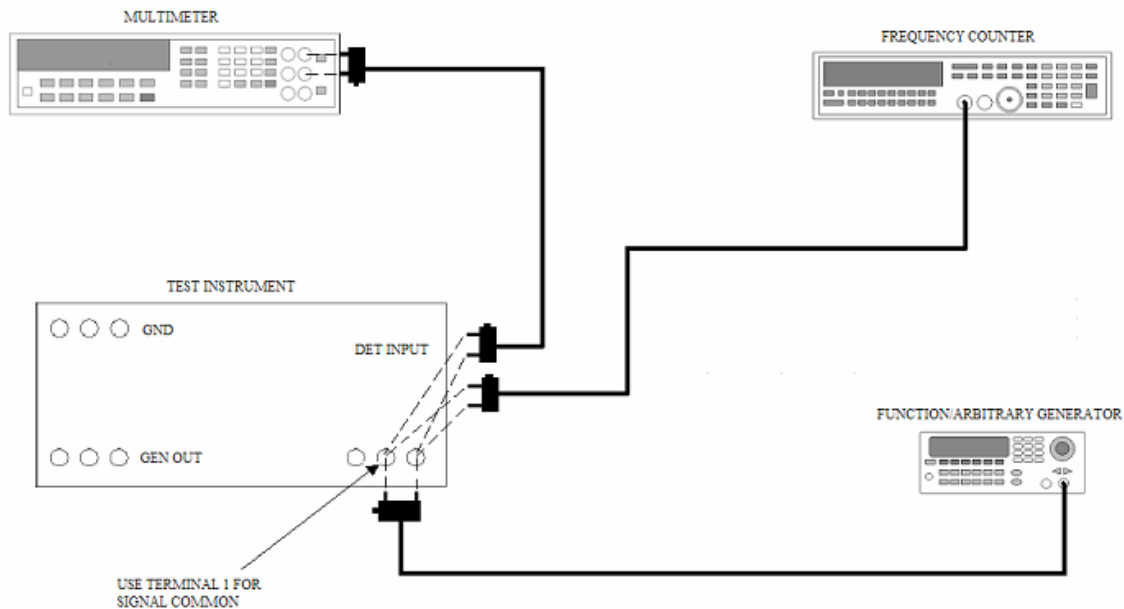

Figure 3. Ac detector sensitivity and selectivity - equipment setup.
- (3) Connect equipment as shown in figure 3.
- (4) Turn **GEN VOLTAGE** control cw out of **OFF** position. Allow at least 5 minutes for equipment to warm up and stabilize.
- (5) Rotate **DET GAIN** control fully ccw.
- (6) Adjust function/arbitrary generator for a 200 mV rms (millivolts root-mean-square) output with frequency at 1 kHz (kilohertz) and output impedance for 50 ohms.
- (7) Move multimeter and cable from **DET INPUT** terminals to **DET OUTPUT** terminals.
- (8) Fine tune function/arbitrary generator frequency control for peak indication on multimeter. Frequency counter will indicate between 990 and 1010 Hz (hertz).
- (9) Adjust **DET GAIN** control between fully ccw and approximately one-fourth turn cw for a convenient multimeter indication. Record multimeter indication.
- (10) Increase function/arbitrary generator frequency until multimeter indication is -30 dB (decibel) from indication recorded in (9) above. Frequency counter indication will be 2020 Hz or less.